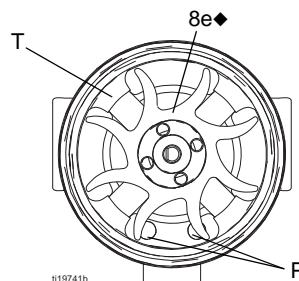

FIG. 39 . Fan Orientation
3. Measure resistance between the two outer terminals of the 3-wire connector (PC); it should be 2.0–6.0 ohms. If outside this range, replace the turbine coil (8a).
5. If necessary, rotate the fan (8e) so its blades clear the four bearing tabs (T) of the housing (8d). See FIGURE 39.
7. Hold the coil assembly (8a) on a workbench with the fan end facing up. Using a wide blade screwdriver, pry the fan (8e) off the shaft (S).
10. Install the new bottom bearing (8b1.) on the long end of the shaft (S). The flatter side of the bearing must face away from the magnet (M). Install in the coil (8a) so the bearing blades are flush with the surface of the coil.
12. Hold the coil assembly (8a) on a workbench with the fan end facing up. Press the fan (8e.) onto the long end of the shaft (S). The fan blades must be oriented as shown in FIGURE 39.
13. Carefully press the coil assembly (8a) into the front of the housing (8d.) while aligning the pin on the coil with the slot in the housing. The 3-wire connector (PC) must be positioned below the wider notch (W) of the housing tabs.
14. Rotate the fan (8e) so its blades clear the four bearing tabs (T) at the back of the housing. Ensure that the blades of the bottom bearing (8b1.) align with the tabs.